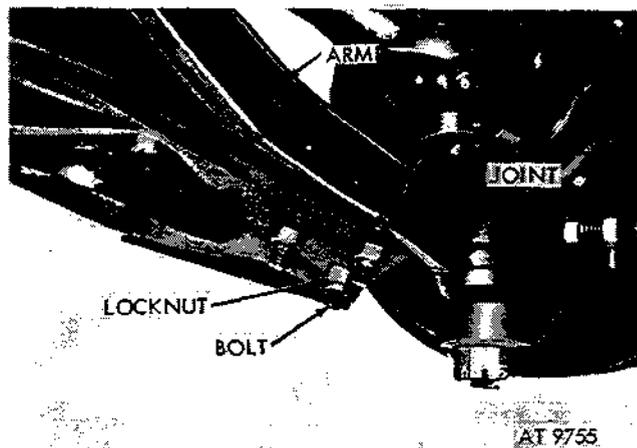
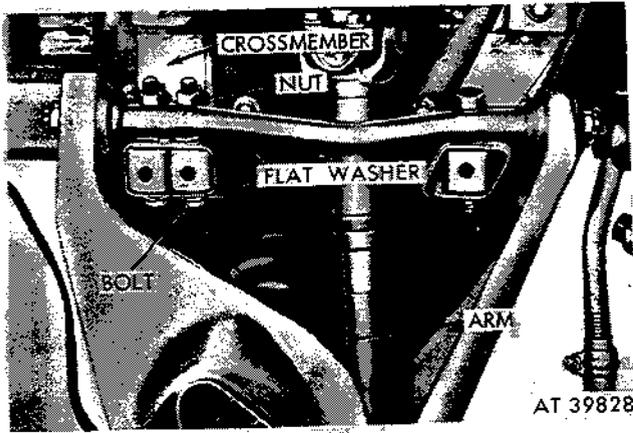

Figure 2-333. Remove suspension arm from lower ball joint.
Figure 2-334. Remove suspension arm from crossmember.
- (1) Raise vehicle, remove wheel assembly, and position support under lower suspension arm.
- (2) Remove shock absorber (para 2-144).
- (3) Remove three bolts and locknuts securing suspension arm to lower ball joint (fig. 2-333).
- (4) Remove coil spring (para 2-145).
- (5) Remove three bolts, nuts and flat washer securing suspension arm to crossmember (fig. 2-334).